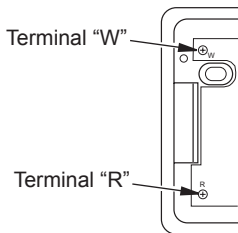

Figure 32 - Thermostat Base Terminals “W” and “R”
6. Connect one bare wire end to each terminal (“W” and “R”) of the thermostat base (see Figure 32).